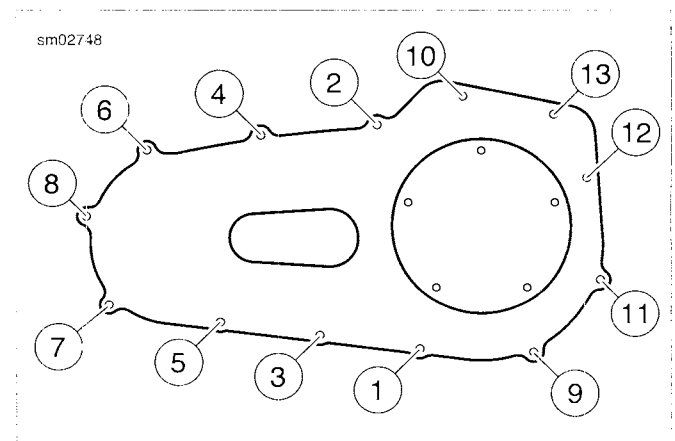

Figure 5-3. Primary Chaincase Cover Torque Sequence
3. See Figure 5-3. Tighten primary cover fasteners (1-13) to 108-120 **in-lbs** (12.2-13.6 Nm) in the sequence shown.